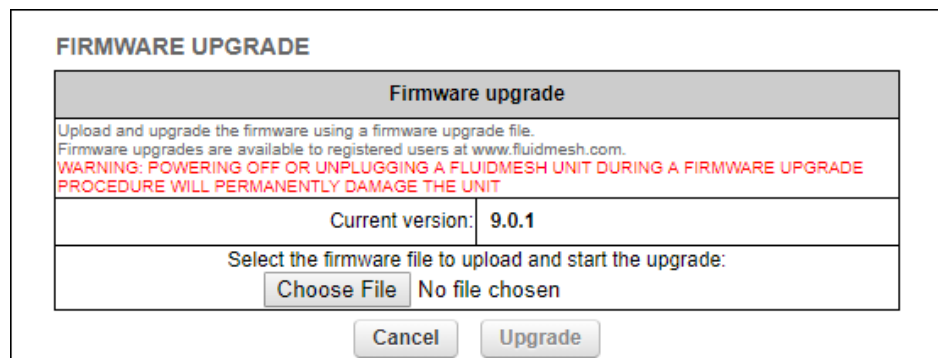

Figure 48. Configurator GUI (typical FIRMWARE UPGRADE dialog)
- The **FIRMWARE UPGRADE** dialog will be shown (Figure 48 \(page 97\)).